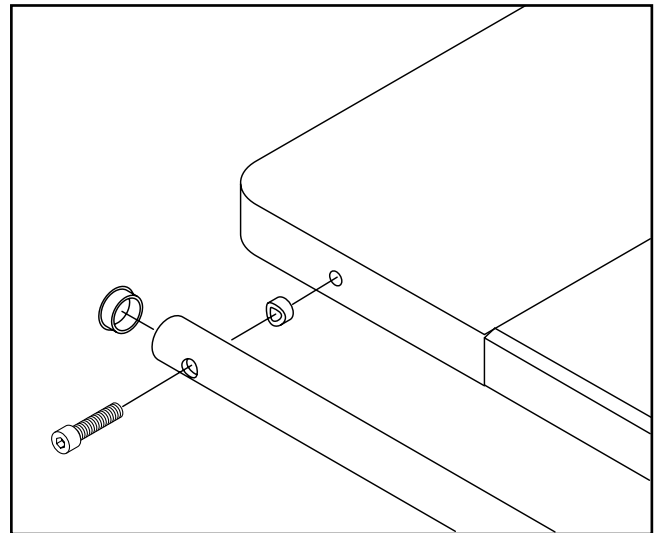

Figure 11.
1. Attach the front and rear rails to the drilled and tapped holes on each extension wing. **Figure 11.** *Be sure that the rail with the scale is mounted on the front side of the machine, with the markings facing up.*